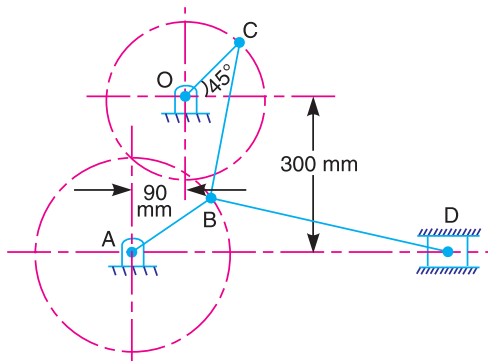

Fig. 8.42
7. In the toggle mechanism, as shown in Fig. 8.42,  $D$  is constrained to move on a horizontal path. The dimensions of various links are :  $AB = 200$  mm;  $BC = 300$  mm;  $OC = 150$  mm; and  $BD = 450$  mm.